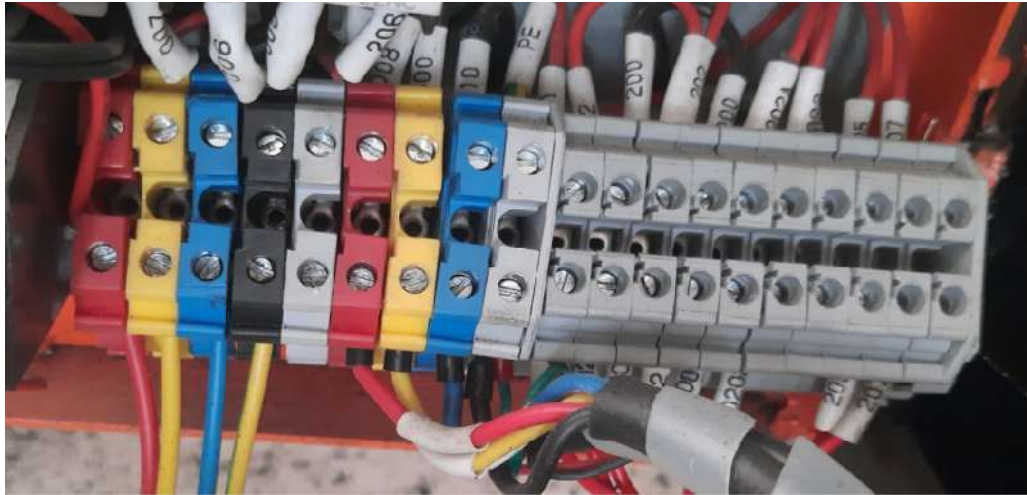

Figure3-5 Electrical Connection-AC main line input at Control Panel
3. Connect the input supply as depicted in Fig3-5.
- Establish the electrical connection as per Fig3-5.